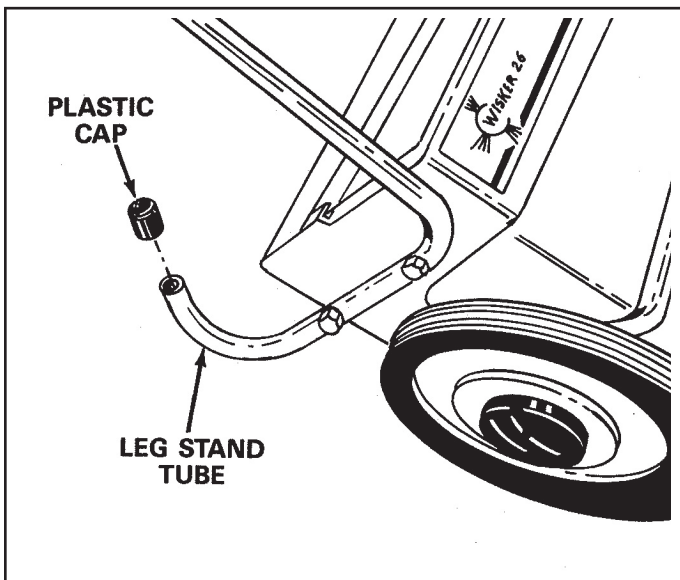

FIGURE 6
8. Assemble the two plastic caps $3/4$ " x $7/8$ " onto the ends of the leg stand tubes as shown in figure 6.